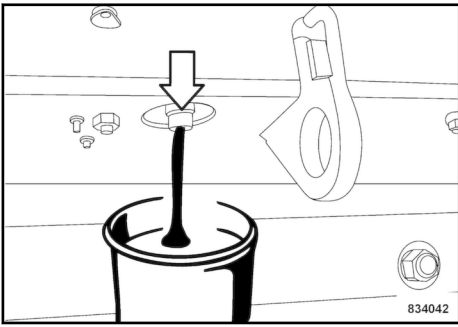

Fig. 156
1. Unscrew the plug from the hydraulic oil tank ↪ Fig. 156, drain off and collect all hydraulic oil.